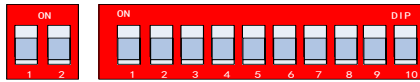

Figure 1-3 Enlarged View of DIP Switch
- For some certain models, the two individual DIP switches are at the left side of the Figure1-3 for turning on/off the terminal resistor.